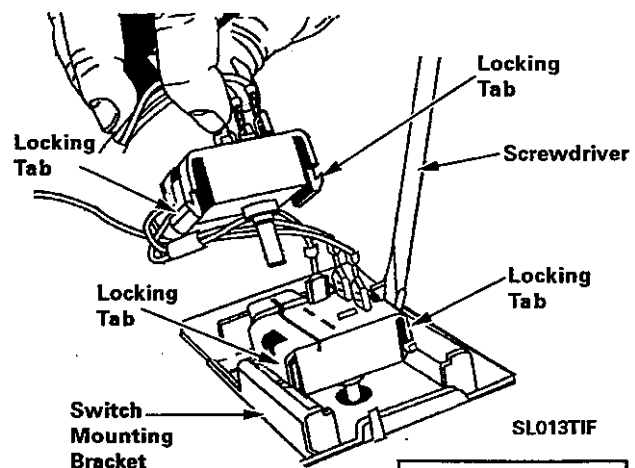

Figure 4-8
1. **To remove** - Depress the locking tab on the switch to disengage the switch from the locking tab on the console. Pivot the switch from the console (Figure 4-8).